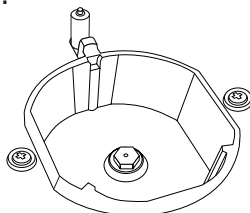

Figure 5
3. As seen in Figure 5, demount burner lid and burner of the cooktop and ensure visibility of injector.